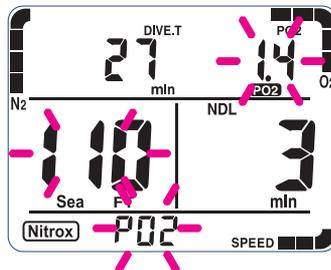

Figure 30
- **PO2 warning:** The PO2 warning has two levels. (Fig. 30)